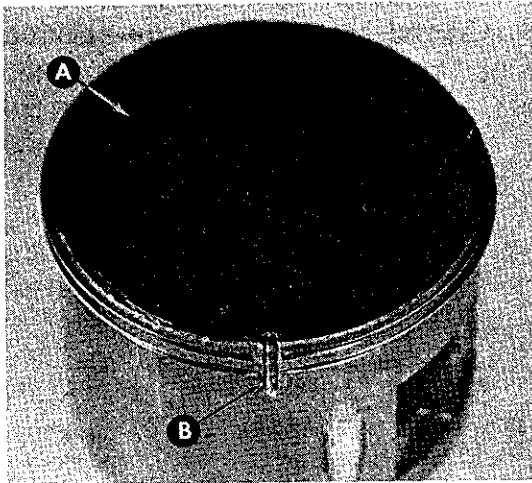
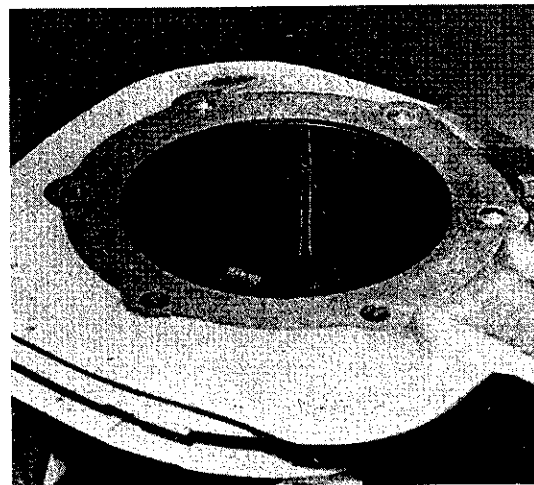

FIGURE 5
FIGURE 6
- D. The pin was drawn into the combustion chamber and bounced up and down probably only once. The single dent in the top of the piston indicates this (A, figure 5).
E. The pin was thrown to the side and caught between the piston and cylinder where it was dragged up and down until the engine stopped. This is shown in the groove in the side of the piston (B, figure 5) and the furrow in the side of the cylinder (figure 6).